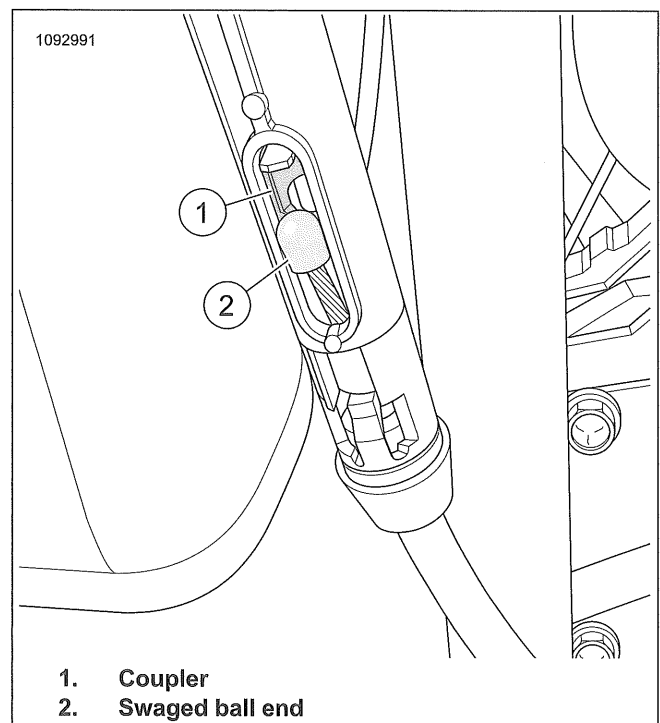

Figure 3-97. Coupler Disengagement
6. See Figure 3-97. Push swaged ball end (2) out from coupler from opposite side and slightly pull clutch lever in until locking tab is at top of window. Remove swaged ball end from coupler (1).
- 2. See Figure 3-97. Pull clutch cable swaged ball end (2) out slightly from window and then manipulate clutch lever to align coupler (1) with swagged ball end and then release.